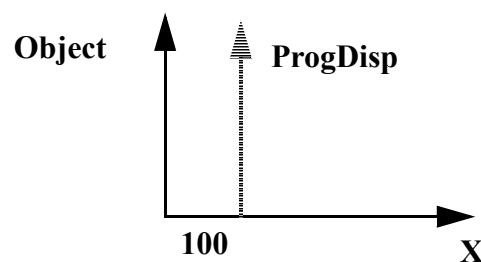

Figure 23 A 100 mm-program displacement along the x-axis.
- The ProgDisp coordinate system is displaced 100 mm from the object coordinate system, in the direction of the positive x-axis (see Figure 23).